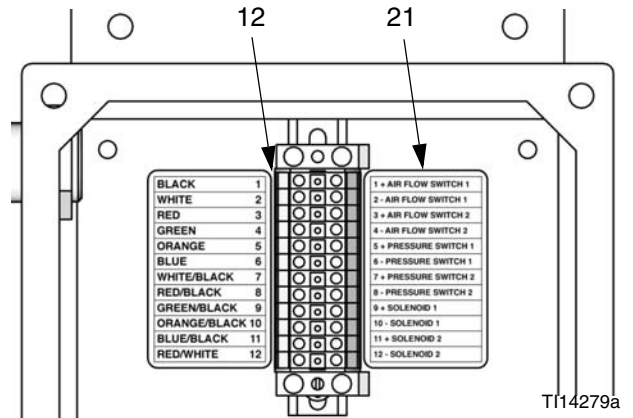

FIG. 4. Connect Air Flow Switch to Terminal Strip
2. Connect the wires from AFS#1 to the right side of the terminal strip (12) pins 1 (+) & 2 (-), as indicated by the label (21). See FIG. 4 and Table 1.
3. If using a second gun flush box, connect the wires from AFS#2 to the right side of the terminal strip (12) pins 3 (+) & 4 (-), as indicated by the label (21). See FIG. 4 and Table 1.